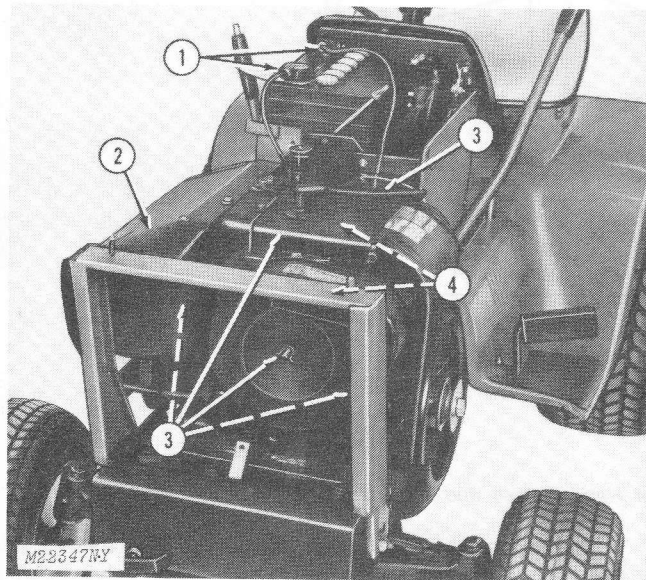

Fig. 3-Disassembling Engine
1. Disconnect battery cables, negative cable first, Fig. 3.